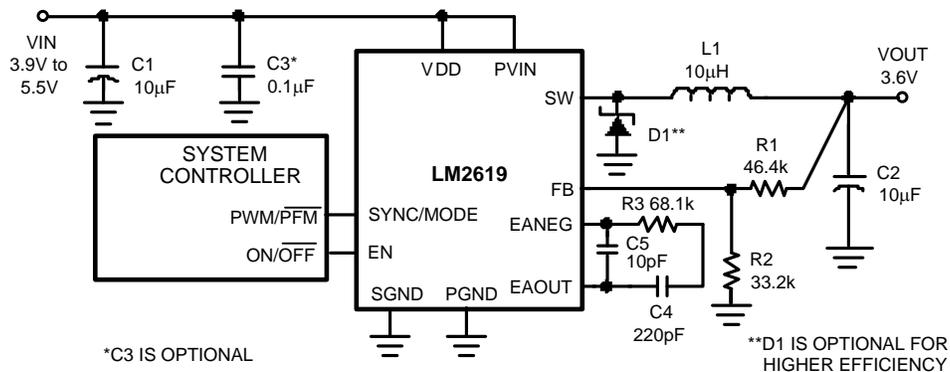

Figure 20. Typical Operating Circuit for 3.6V Output Voltage
- (1) The LM2619 is designed for mobile phone applications where turn-on after system power-up is controlled by the system controller. Thus, it should be kept in shutdown by holding the EN pin low until the input voltage exceeds 2.8V.
- (2) The hysteresis voltage is the minimum voltage swing on the FB pin that causes the internal feedback and control circuitry to turn the internal PFET switch on and then off during PFM mode. When resistor dividers are used like in the operating circuit of Figure 20, the hysteresis at the output will be the value of the hysteresis at the feedback pin times the resistor divider ratio. In this case, 24mV (typ) x ((46.4k + 33.2k)/33.2k).
- (3) Current limit is built-in, fixed, and not adjustable. If the current limit is reached while the voltage at the FB pin is pulled below 0.7V, the internal PFET switch turns off for 2.5μs to allow the inductor current to diminish.
- (4) SYNC driven with an external clock switching between V_{IN} and GND. When an external clock is present at SYNC; the IC is forced to be in PWM mode at the external clock frequency. The LM2619 synchronizes to the rising edge of the external clock.
DC PWM mode feedback voltage precision is ±1%. Efficiency is typically 96% for a 200mA load with 3.6V output, 3.9V input. The efficiency can be further increased by using a schottky diode like MBRM120L as shown in Figure 20. PWM mode quiescent current is 600µA typ. The output voltage can be set from 1.5V to 3.6V by using external feedback resistors.
Referring to Figure 20, Figure 21, Figure 22, and Figure 23, the LM2619 operates as follows. During the first part of each switching cycle, the control block in the LM2619 turns on the internal PFET switch. This allows current to flow from the input through the inductor to the output filter capacitor and load. The inductor limits the current to a ramp with a slope of $(V_{IN}-V_{OUT})/L$, by storing energy in a magnetic field. During the second part of each cycle, the controller turns the PFET switch off, blocking current flow from the input, and then turns the NFET synchronous rectifier on. In response, the inductor's magnetic field collapses, generating a voltage that forces current from ground through the synchronous rectifier to the output filter capacitor and load. As the stored energy is transferred back into the circuit and depleted, the inductor current ramps down with a slope of V_{OUT}/L . If the inductor current reaches zero before the next cycle, the synchronous rectifier is turned off to prevent current reversal. The output filter capacitor stores charge when the inductor current is high, and releases it when low, smoothing the voltage across the load.
The LM2619 uses external components connected to the EANEG and EAOUT pins to compensate the regulator (Figure 20). Typically, all that is required is a series connection of one capacitor (C4) and one resistor (R3). A capacitor (C5) can be connected across the EANEG and EAOUT pins to improve the noise immunity of the loop. C5 reacts with R3 to give a high frequency pole. C4 reacts with the high open loop gain of the error amplifier and the resistance at the EANEG pin to create the dominant pole for the system, while R3 and C4 react to create a zero in the frequency response. The pole rolls off the loop gain, to give a bandwidth somewhere between 10kHz and 50kHz, this avoids a 100kHz parasitic pole contributed by the current mode controller. Typical values in the 220pF to 1nF (C4) range are recommended to create a pole on the order of 10Hz or less.